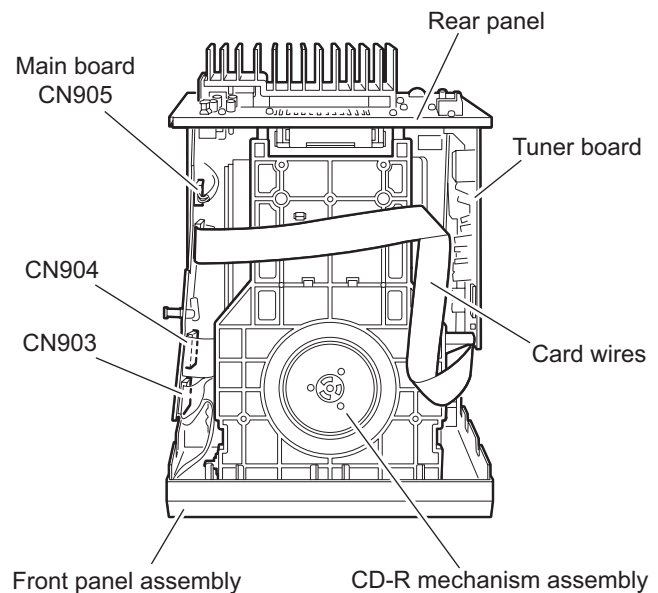

Fig.6
2.1.4 Removing the CD-R mechanism assembly (See Fig.6 ~ 8)